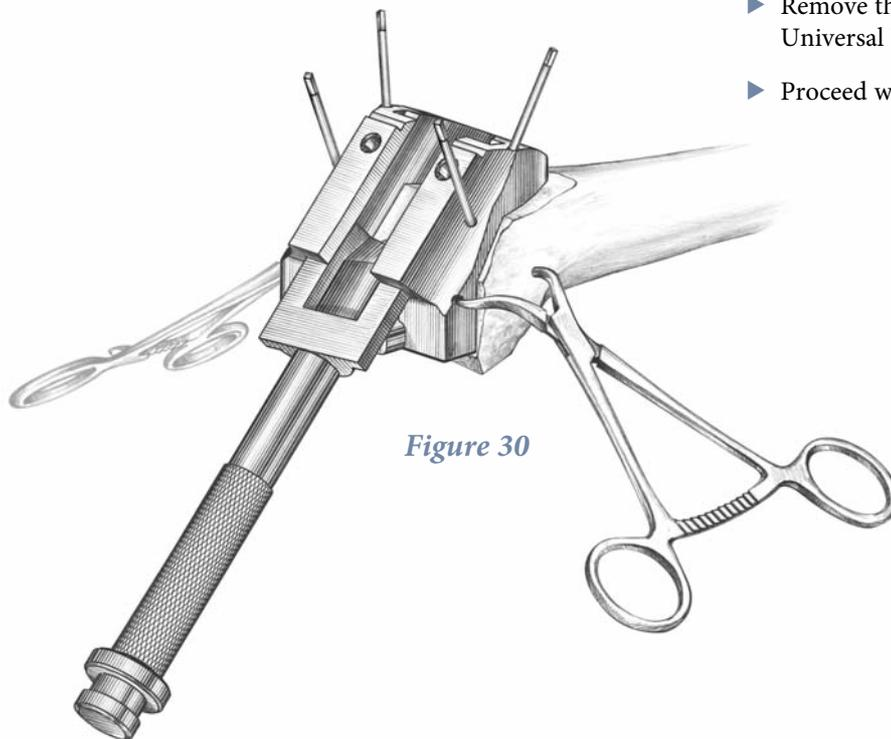

Figure 31
- ▶ Place femoral trial onto the prepared femur. The Starter Femoral Impactor is used to guide and position the femoral trial into proper orientation. The Starter Femoral Impactor allows for impaction within the trochlear groove to help control rotation and alignment of the femoral trial (**Figure 31**). The Femoral Impactor is then used for final femoral trial seating onto the prepared femoral bone (**Figure 32**).